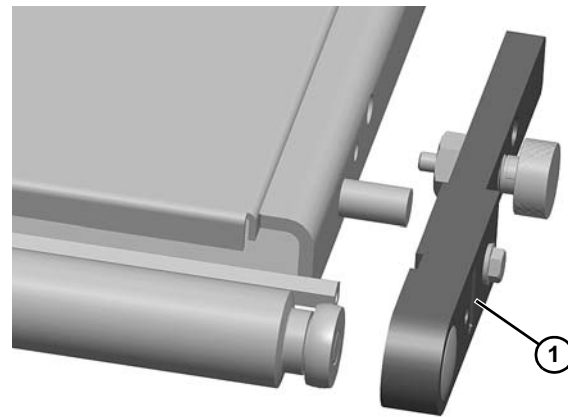

Figure 7
4. Remove the head plate (**Figure 7, item 1**) from the conveyor frame, holding spindle in place.